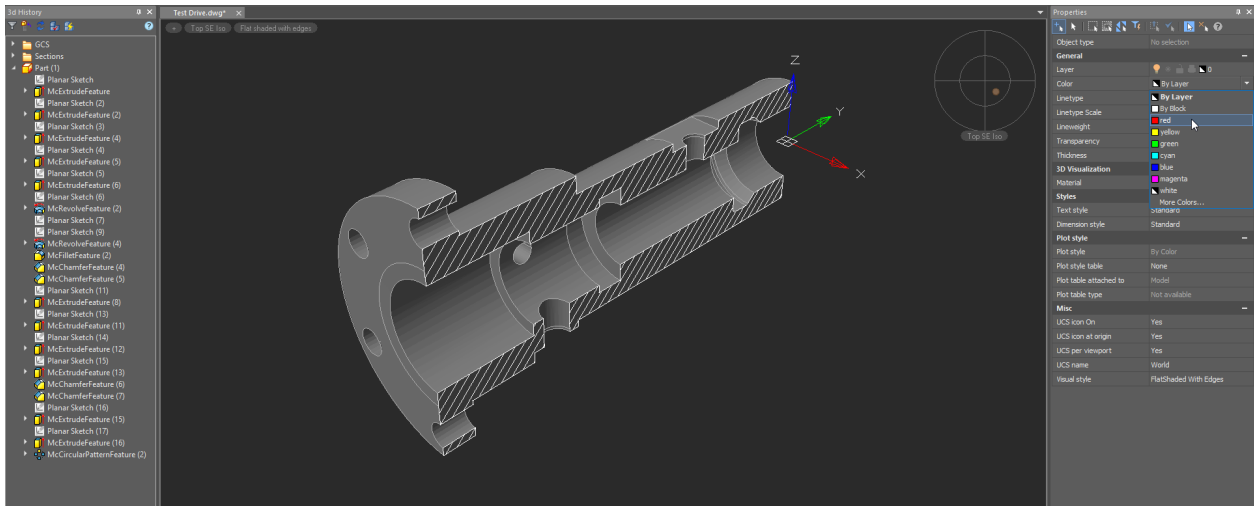

Fig. 31. The final view of the model
8.7. Save the changes. The final view of the model is shown in Fig. 31.